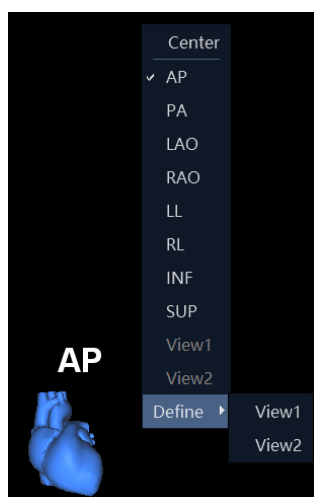

Figure 7-2 Use the projection icon.
- Right-click the projection icon (Figure 7-2) and select the desired viewing angle.
- 2) Right-click the projection icon (Figure 7-2) and select Define.